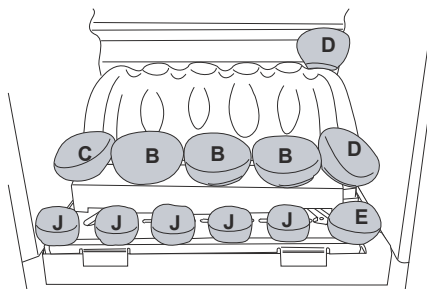

Figure 37
4. Insert the **J & E** pebbles centrally onto the spikes and place the **B, C & D** pebbles on the middle matrix ensuring the same orientation as shown in **Figure 37**.